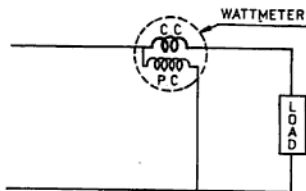

Fig. 11.17: Connections of wattmeter
The power in a single-phase ac circuit is measured by an instrument known as the wattmeter. A wattmeter consists of two coils, namely current coil (CC) which is connected in series with the line voltage and the pressure coil (PC) which is connected across the line. The connections of the wattmeter are shown in Fig. 11.17.